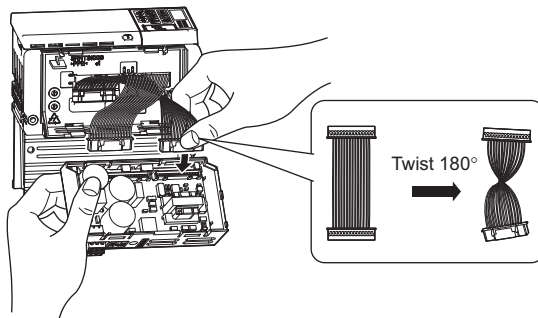

Figure 15 Plugging the Connector into the 24 V Power Supply Unit (PS-V10S)
1. Position the drive on its side or its back as shown in **Figure 15**. Twist the cable with black connector ends 180 degrees.